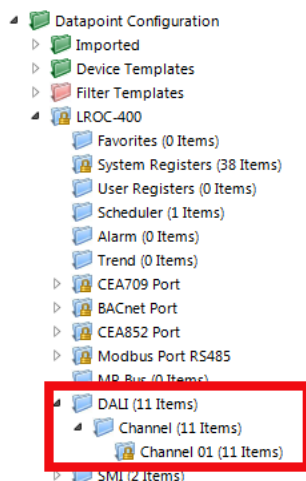

Figure 215: Data Point Manager with DALI device folders.
- The folder list (Figure 215),